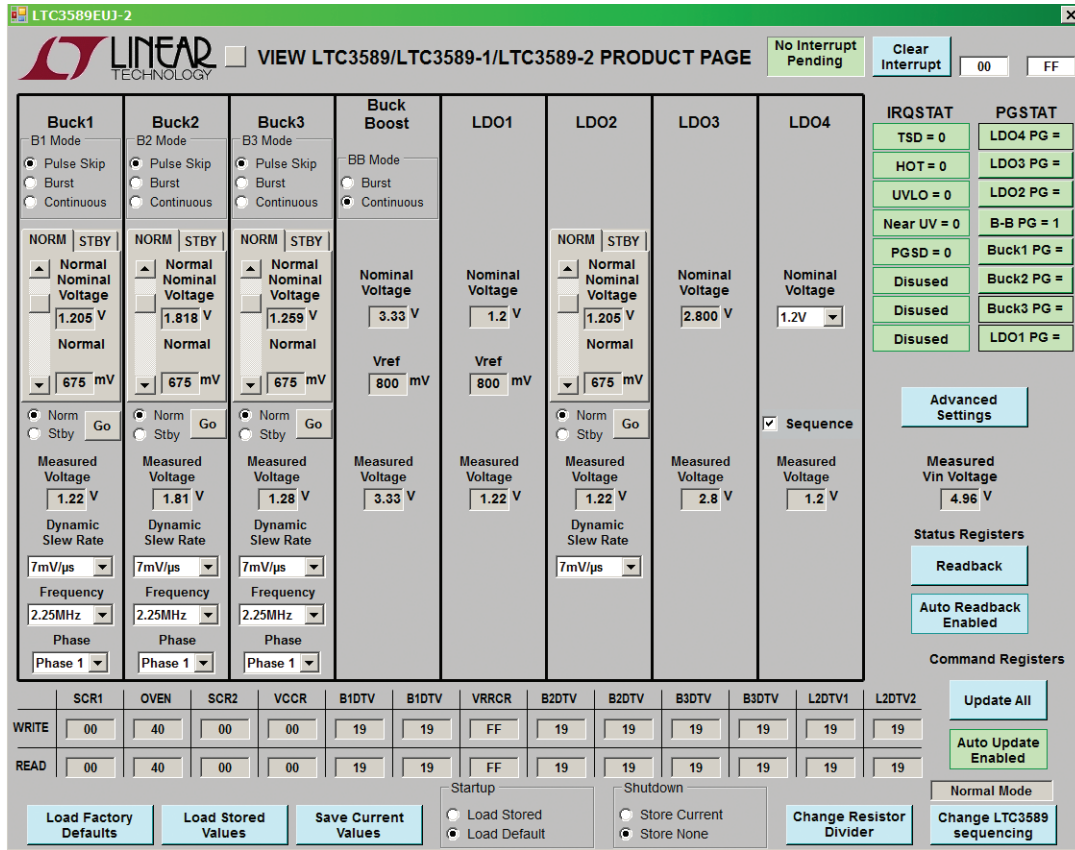

Figure 3. Main Form
2. Start the Linear Technology QuikEval™ program. This program should automatically detect the presence of the LTC3589EUJ-xdemo board (DC1808B-A/1808B-B) and activate the appropriate GUI, as seen in Figure 3. The GUI reads back the current voltages of the regulators. LDO1 should read 1.2V, and  $V_{IN}$  should read 5V; all others should be 0V.
3. Press the PB1 button on the DC1808B-A/1808B-B for more than 0.5s; all of the power supplies should come up and the displayed GUI page should match Figure 3. The sequencing for these supplies was set by Linear Technology, using resistor divider networks from the supply outputs to control the ENx lines.
- The LTC3589-1 (DC1808B-A) or LTC3589-2 (DC1808B-B) form (Figure 3) is brought up by the QuikEval program.